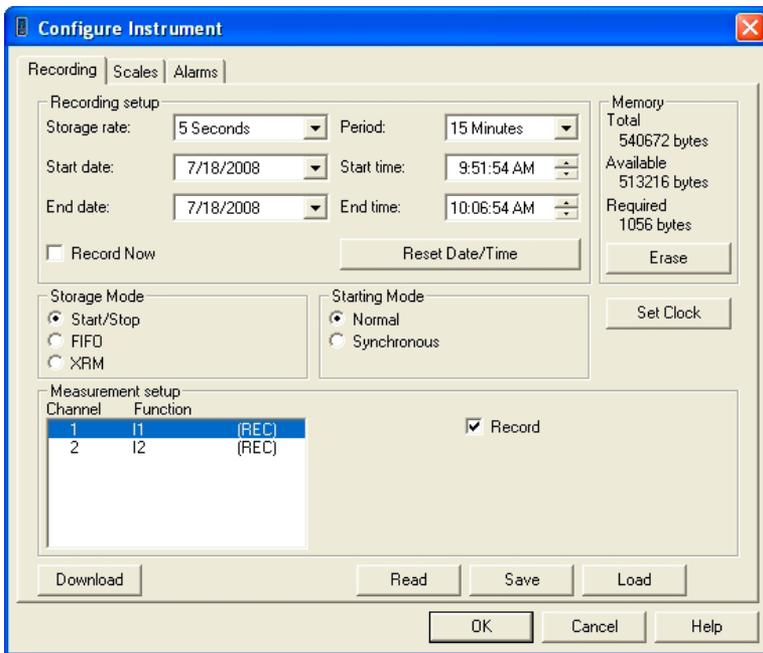

Figure 2-3
2. Next, select **Configure** from the **Instrument** menu and the Configure Instrument dialog box, similar to Figure 2-3, will be displayed.